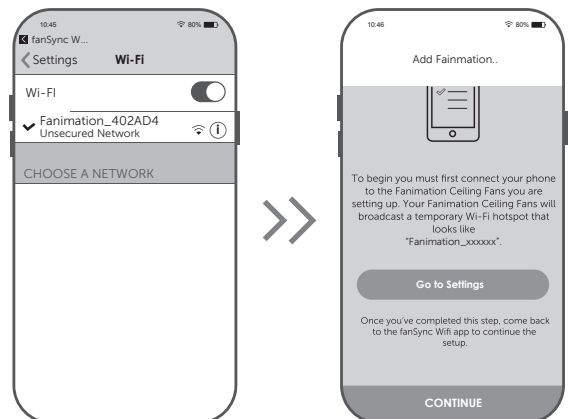

Figure 6
- ☐ **6.** In the WiFi settings on your smart device, select the Fanimation_XXXXXX device and return to the fanSync WiFi APP and press "CONTINUE". (Figure 6)